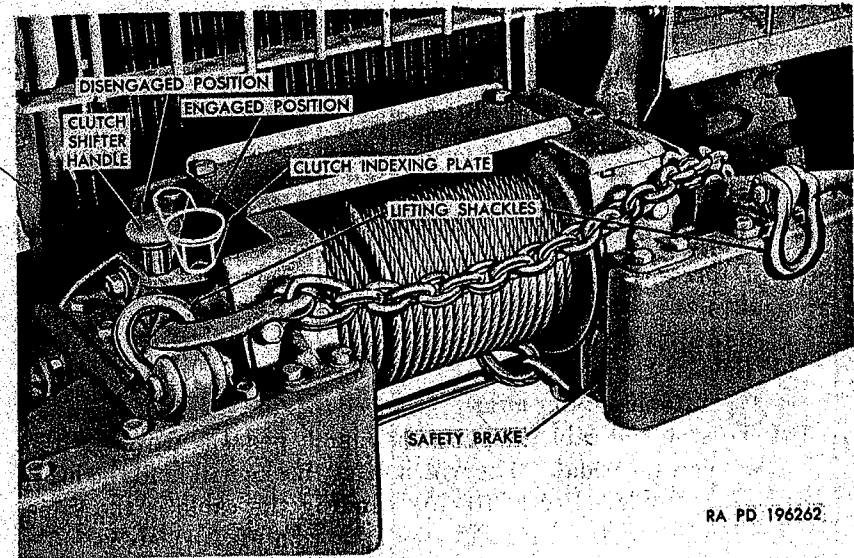
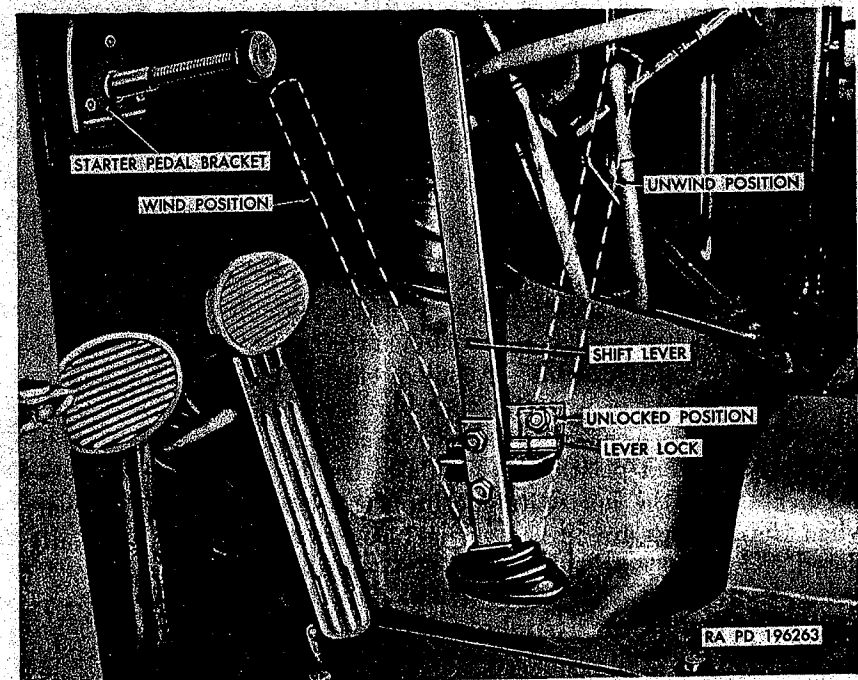

Figure 27. Winch installed.
Figure 28. Power-take-off shift lever positions.
*a. General.* The winch (fig. 27), mounted at the front of the vehicle, is operated by power transmitted through the transmission and power-take-off and the winch drive shaft. The winch clutch shifter handle controls engagement and disengagement of the winch clutch with the winch cable drum. The power-take-off shift lever (fig. 28) controls direction of winch drum rotation when the clutch shifter handle is in the engaged position. A safety brake operates on the winch worm shaft to hold the load.
- (1) To operate the winch clutch shifter handle (fig. 27), raise the handle knob to disengage the knob shaft from the clutch indexing plate, move the handle to the engaged or disengaged position, and release the handle knob. The knob shaft spring holds the handle in position on the indexing plate.
- (2) To operate the power-take-off shift lever (fig. 28), raise the lever lock, and move the shift lever to the desired position. The lock is spring-loaded to hold the lever in neutral position and prevent accidental winch drive shaft engagement.